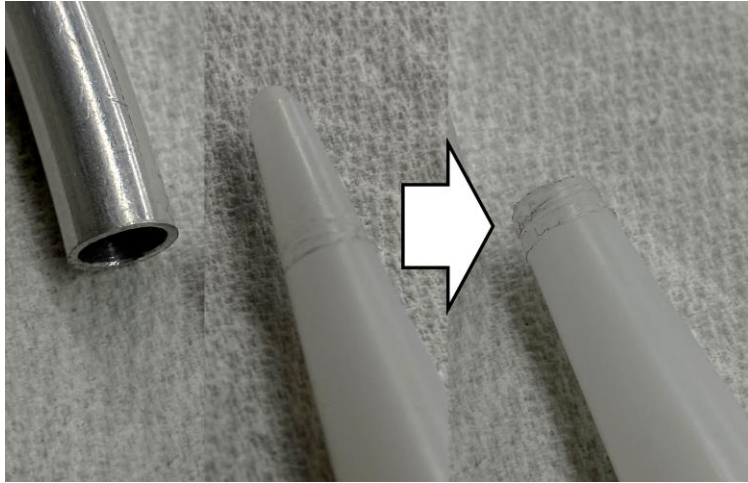

FIGURE 7: CUTTING THE SEALANT NOZZLE
Step 12: Push the MC-236-B1/2 fuel sealant nozzle into the end of the aluminum tube and score the nozzle surface with the tube edge, then remove the nozzle tip by cutting the nozzle about a 1/4 in. [6.4 mm] longer than the score mark indicates. See Figure 7.